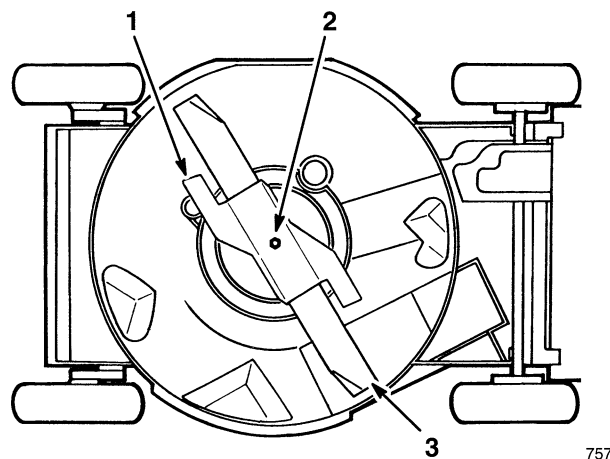

Figure 22
3. Tip mower on its right side (Fig. 22). Avoid rotating blade as starting problems may result.
5. **REMOVING BLADE**—Grasp end of blade using a rag or thickly padded glove. Remove blade bolt, lockwasher, blade accelerator, and blade (Fig. 22).